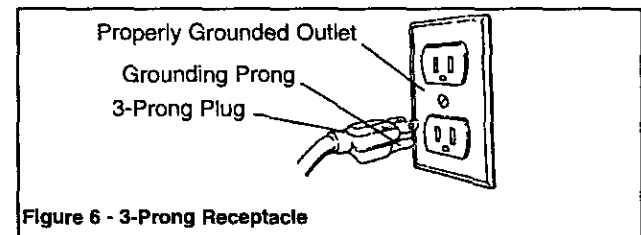

Figure 6 - 3-Prong Receptacle
Refer to Figures 6, 7, and 8, pages 4-5.
- This tool is equipped with an approved 3-conductor cord rated at 150V and a 3-prong grounding type plug rated at 125V (Figure 6) for your protection against shock hazards.
- Grounding plug should be plugged directly into a properly installed and grounded 3-prong grounding-type receptacle, as shown (Figure 6).